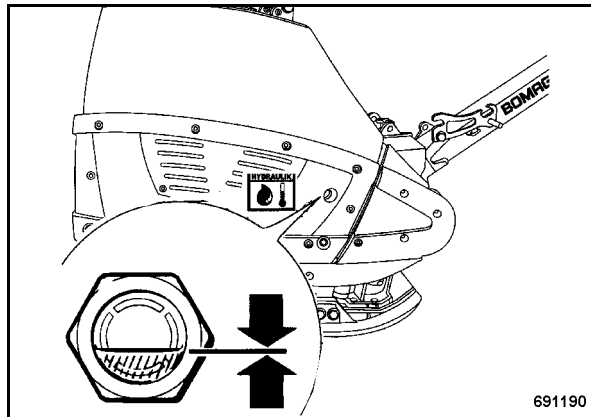

Fig. 50
- Check the oil level in the inspection glass (Fig. 50).